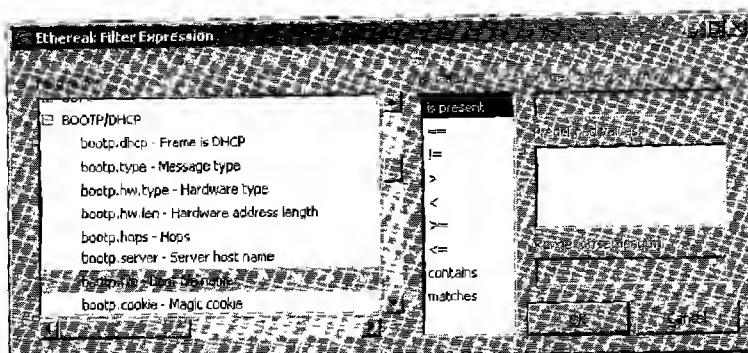

Figure 14-3: Setting up a filter for BOOTP packets
1. While capturing packets, click the **Expression...** button to access Ethereal's Filter Expression feature (see Figure 14-3) and set up a filter that will display only those BOOTP data packets that match chosen criteria.
4. Most service providers use configuration files that end with a particular file extension, usually .cm, .bin, .md5, or .cfg. In the Relation box, select **contains**, and type the extension of your service provider's config files in the Value box. This will help filter out unwanted packets. If you do not know which extension to choose, select **is present** (see Figure 14-3) to show all packets that contain the boot file parameter. Note that this may include packets pertaining to boot files that are not specifically for cable modems.